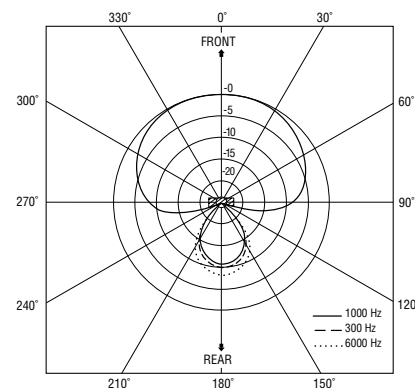

Fig. 3
**Dimensions:** Headband 5.5-inch (13.97 cm) diameter, adjustable. Boom approximately 7-inch (17.78 cm) x 3-inch (7.62 cm). See Figs. 3 and 4.